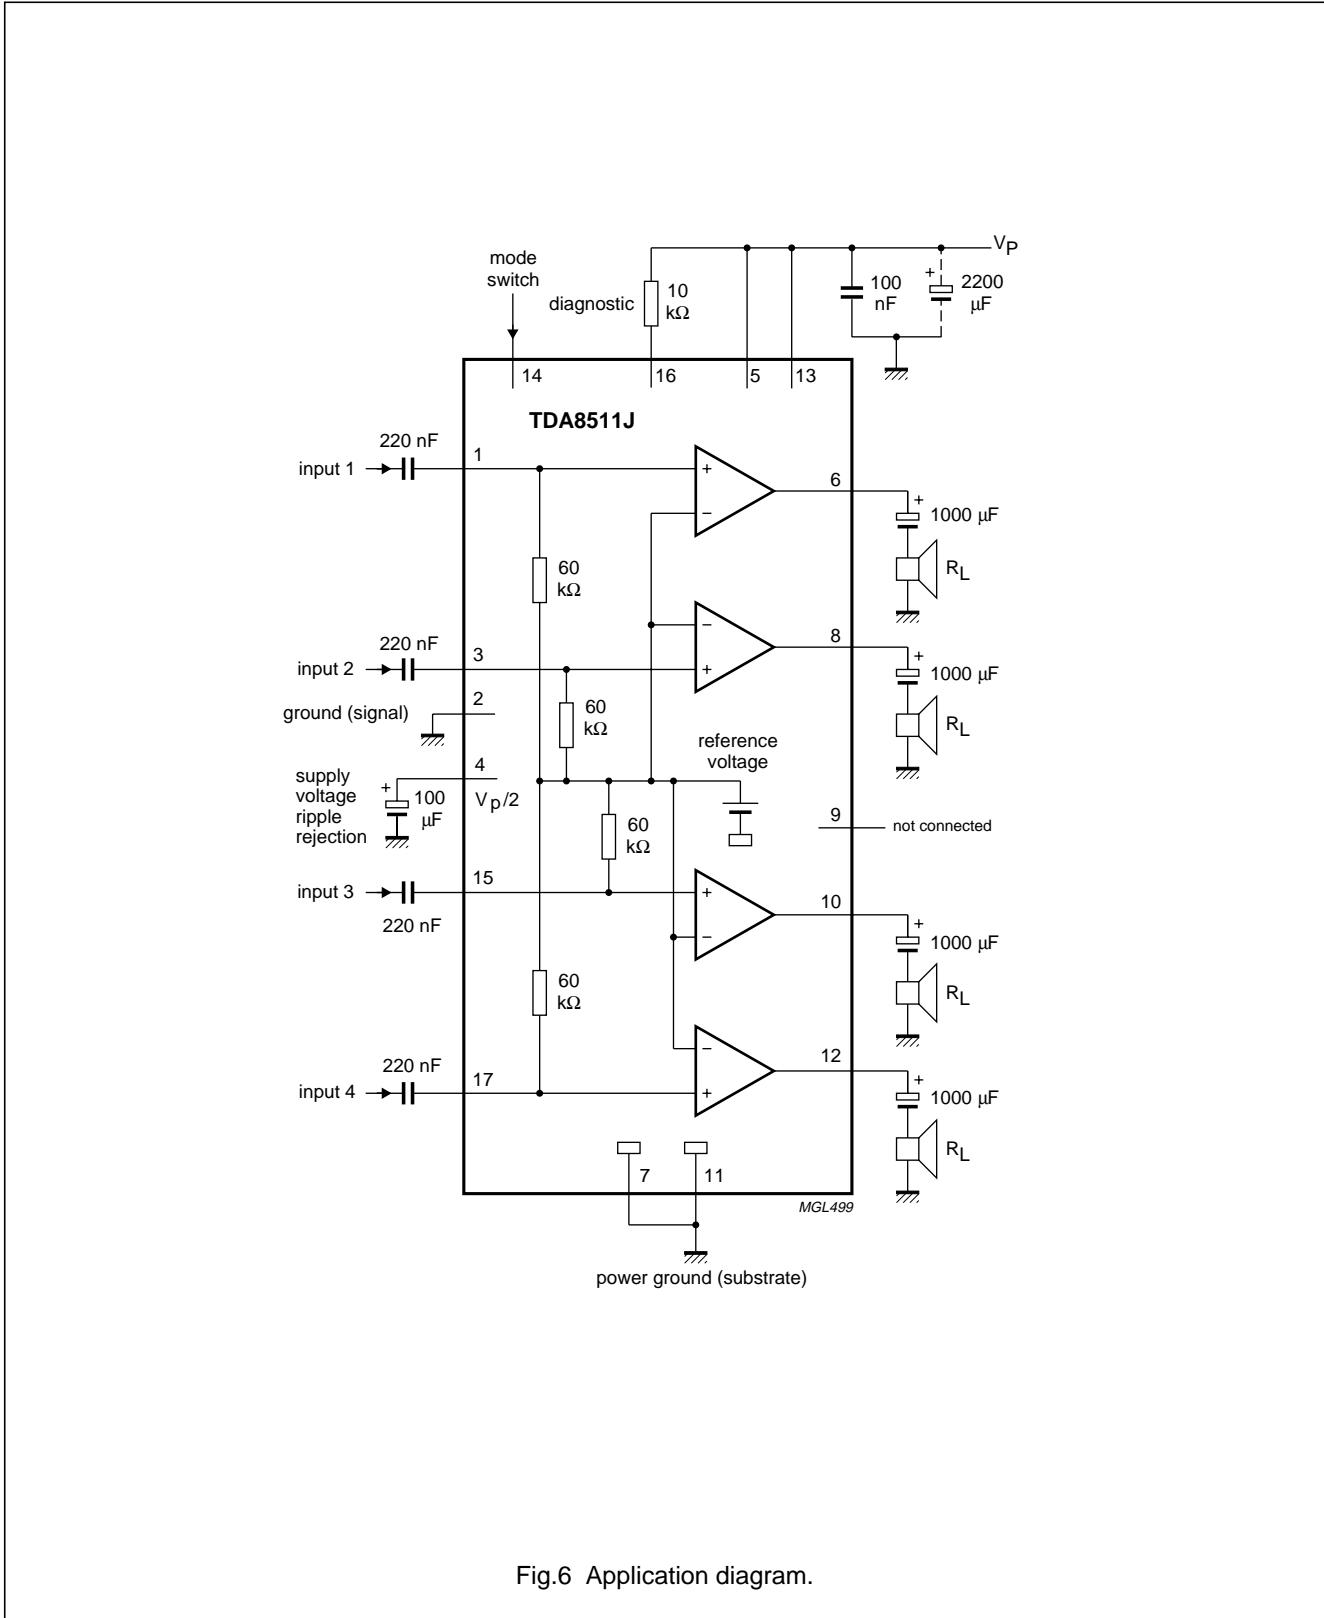

Fig.6 Application diagram.
**4 × 13 W single-ended power amplifiers****TDA8511J****DC CHARACTERISTICS** $V_P = 15\text{ V}$ ;  $T_{\text{amb}} = 25\text{ °C}$ ; measured in Fig.6; unless otherwise specified.
$V_P = 15\text{ V}$ ;  $R_L = 4\ \Omega$ ;  $f = 1\text{ kHz}$ ;  $T_{amb} = 25\text{ °C}$ ; measured in Fig.6; unless otherwise specified.